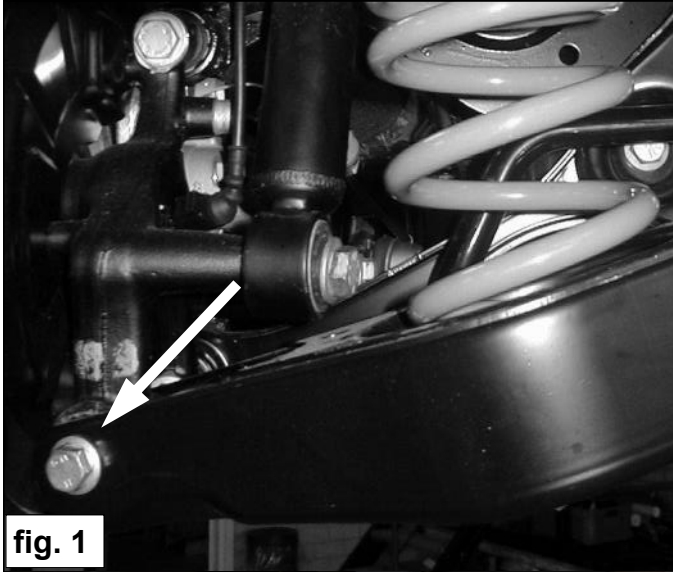

fig. 1
6. Support the wheel arm and fit the wheel arm bolt at the wheel side. See fig. 1.